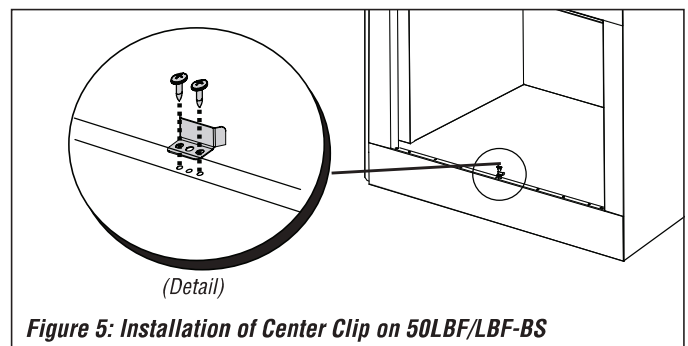

Figure 5: Installation of Center Clip on 50LBF/LBF-BS
Step 7. Position the center clip as shown in *Figure 5, below*, and attach it using the two (2) provided screws.